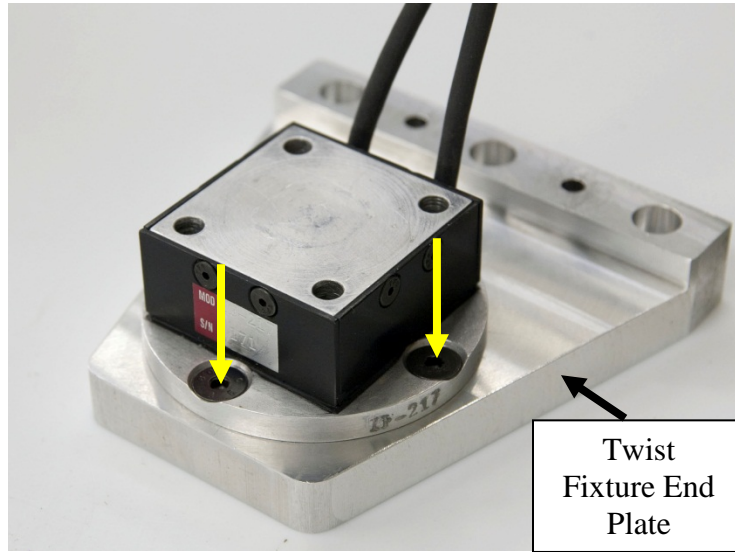

Figure 46. Assemble upper neck load cell to twist fixture end plate
- Assemble upper neck load cell to the twist fixture¹⁵ end plate using four M5 x 12 FHCS (Figure 46).